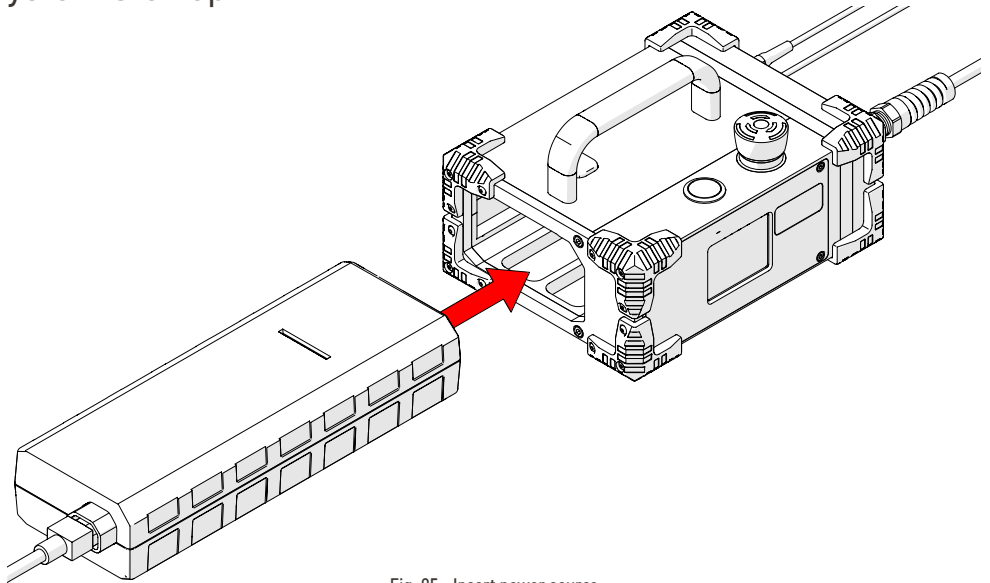

Fig. 85 - Insert power source
1. Insert the power source (Fig. 85) into the power controller dock.